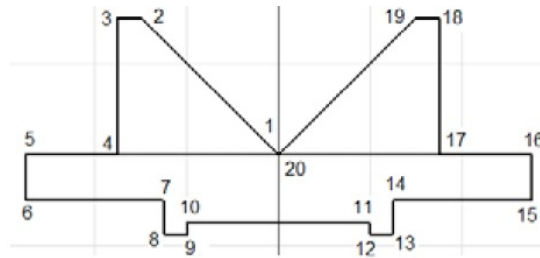

Figure 2-64 Sketch for Tutorial 1
9. Now, you need to create the third line between points 3 and 4, refer to Figure 2-64. To do so, move the cursor downward in the graphics window. Enter **3** in the length input field, press TAB to switch to the angle input field, and enter **90** and then press ENTER; a line is created between the 3 and 4 points.
10. Move the cursor toward left in the graphics window. Enter **2** in the length input field, press TAB to switch to the angle input field, and enter **90** in it, and then press ENTER; a line is created between points 4 and 5, refer to Figure 2-64.
11. Move the cursor downward in the graphics window. Enter **1** in the length input field, press TAB, and enter **90** in the angle input field and then press ENTER; a line is created between points 5 and 6, refer to Figure 2-64.
13. Move the cursor downward in the graphics window. Enter **0.75** in the length input field, press TAB, and enter **90** in the angle input field and then press ENTER; a line is created between points 7 and 8, refer to Figure 2-64.
14. Move the cursor toward right in the graphics window. Enter **0.5** in the length input field, press TAB, and enter **90** in the angle input field and then press ENTER; a line is created between points 8 and 9, refer to Figure 2-64.
15. Move the cursor upward in the graphics window. Enter **0.25** in the length input field, press TAB, and enter **90** in the angle input field and then press ENTER; a line is created between points 9 and 10, refer to Figure 2-64.
16. Move the cursor toward right in the graphics window. Enter **4** in the length input field, press TAB, and enter **90** in the angle input field and then press ENTER; a line is created between points 10 and 11, refer to Figure 2-64.
17. Move the cursor downward in the graphics window. Enter **0.25** in the length input field, press TAB, and enter **90** in the angle input field and then press ENTER; a line is created between points 11 and 12, refer to Figure 2-64.
18. Move the cursor toward right in the graphics window. Enter **0.5** in the length input field, press TAB and enter **90** in the angle input field and then press ENTER; a line connecting points 12 and 13 is created, refer to Figure 2-64.
19. Move the cursor upward in the graphics window. Enter **0.75** in the length input field, press TAB, and enter **90** in the angle input field and then press ENTER; a line connecting points 13 and 14 is created, refer to Figure 2-64.
20. Move the cursor toward right in the graphics window. Enter **3** in the length input field and **90** in the angle input field and then press ENTER; a line connecting points 14 and 15 is created, refer to Figure 2-64.
21. Move the cursor upward in the graphics window. Enter **1** in the length input field, press TAB, and enter **90** in the angle input field and then press ENTER; a line connecting points 15 and 16 is created, refer to Figure 2-64.
22. Move the cursor toward left in the graphics window. Enter **2** in the length input field, press TAB, and enter **90** in the angle input field and then press ENTER; a line connecting points 16 and 17 is created, refer to Figure 2-64.
23. Move the cursor upward in the graphics window. Enter **3** in the length input field, press TAB, and enter **90** in the angle input field and then press ENTER; a line connecting points 17 and 18 is created, refer to Figure 2-64.
24. Move the cursor toward left in the graphics window. Enter **0.5** in the length input field, press TAB, and enter **90** in the angle input field and then press ENTER; a line connecting points 18 and 19 is created, refer to Figure 2-64.